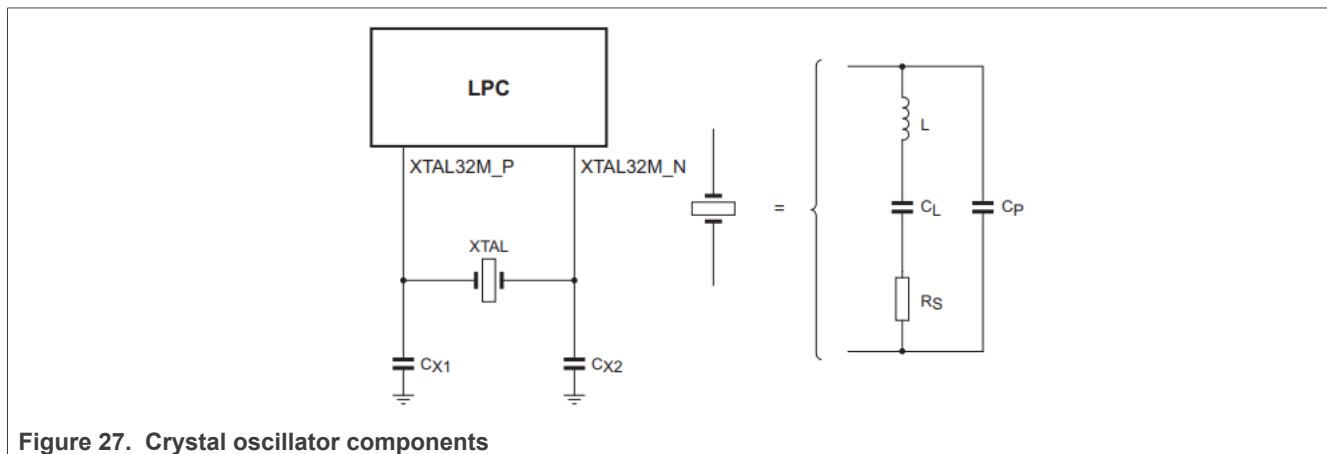

Figure 27. Crystal oscillator components
The crystal oscillator has embedded capacitor bank where it can be used as an integrated load capacitor for the crystal oscillators. The capacitor banks on each crystal pin can tune the frequency for crystals with a Capacitive Load (CL) between 6 to 10pF (IEC equivalent). Simple APIs to configure the Capacitor Banks based on the crystal Capacitive Load (CL) and measured PCB parasitic capacitances on XIN and XOUT pins. In the crystal oscillator circuit, only the crystal (XTAL) needs to be connected with the option to connect capacitances CX1 and CX2 on XTAL32M_P and XTAL32M_N pins. Depending upon the computation of the required Capacitive Load, there is no need to add some capacitance on PCB if computation is less than 20 pF (10 pF equivalent IEC), and if computation is greater than 20 pF (10 pF equivalent IEC), then additional capacitance is on PCB required. See Figure 27 and refer to the "Cap Bank API" chapter in the user manual. In bypass mode, an external clock (maximum frequency of up to 25 MHz) can also be connected to XTAL32M_P if XTAL32M_N is left open. External [0 – VH] square signal can be applied on the XTAL32M_P pin from 0 V to 850 mV.